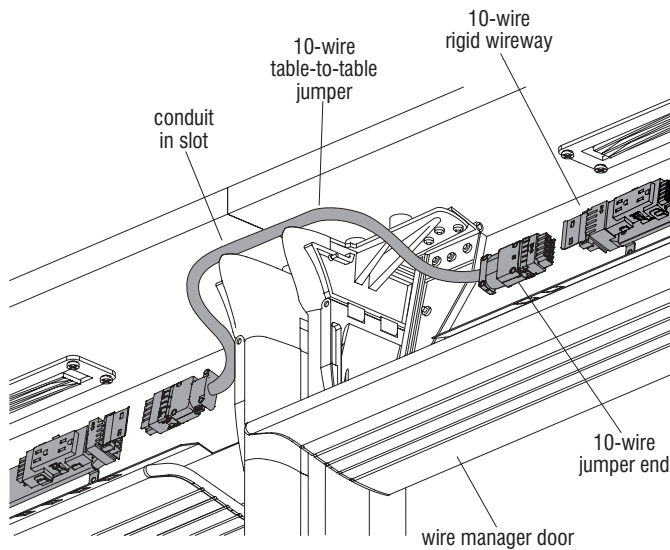

Figure 5
2. Snap the 10-wire table-to-table jumper ends into each table's factory installed 10-wire rigid wireway. Be sure the steel clip engages each jumper for a secure fit. Position the steel conduit of the jumper into the slot at the back, top of each table's leg as illustrated (Figure 5).